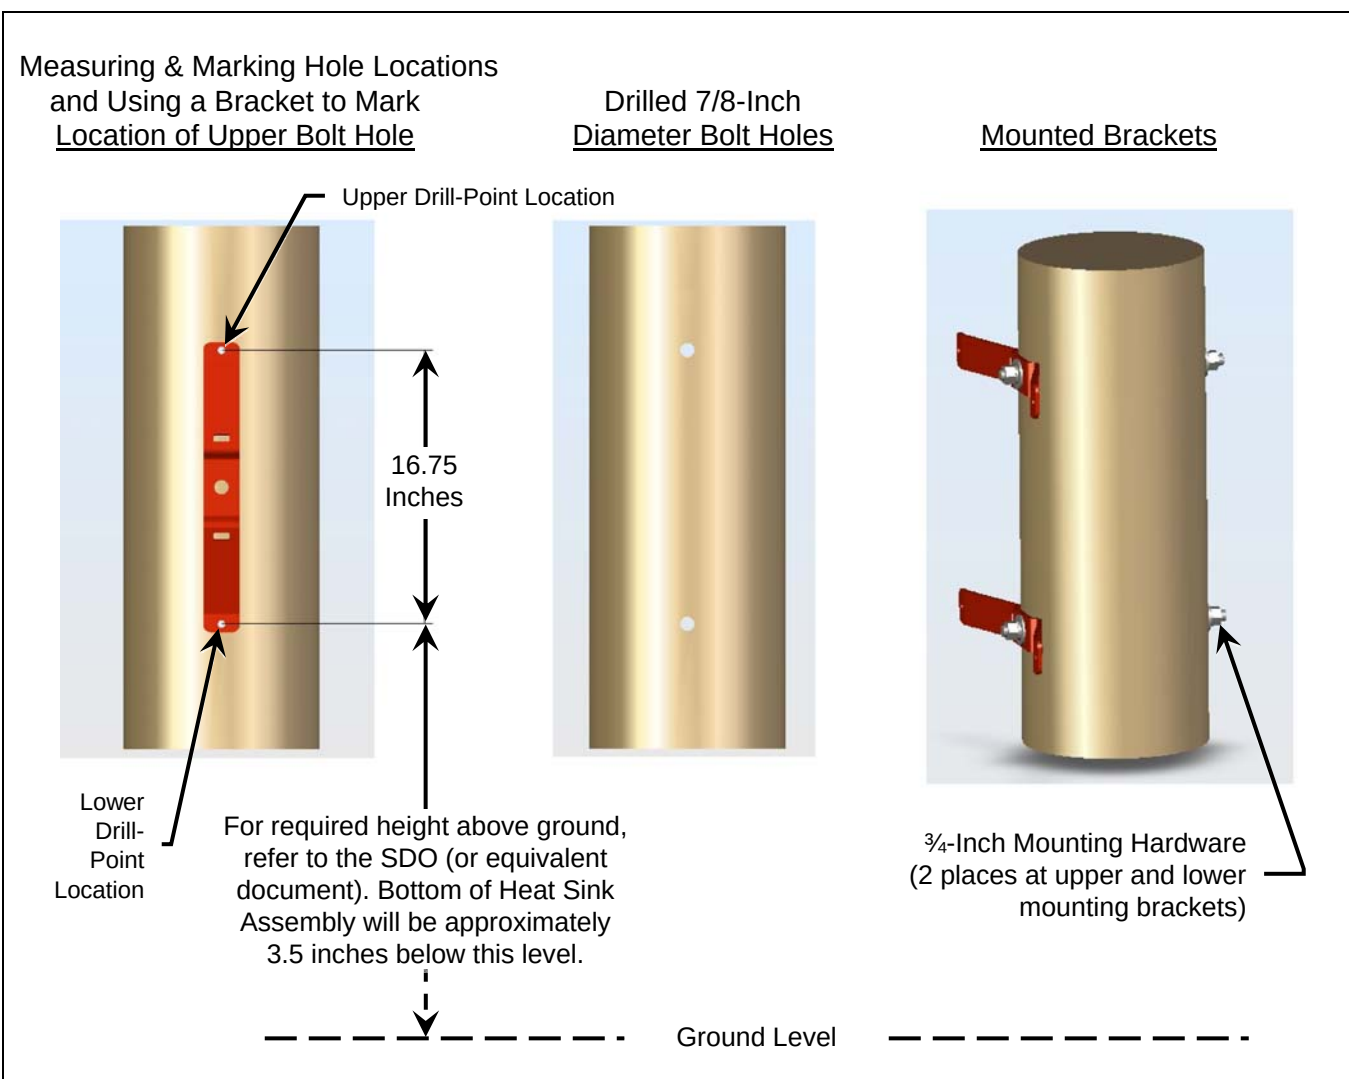

Figure 6-1: Attaching the Mounting Brackets to a 12-Inch Wooden Pole
1. Consult the SDO for the required height above ground specification, and any other mounting-related instructions/requirements. Most installations require the bottom of the base station cabinet at a distance of at least eight (8) feet from the surface of the ground.
2. On the base station cabinet-side of the pole, mark a drill-point location for the lower mounting bracket's bolt hole. The bottom of the cabinet will be at approximately this same level above ground. However, the bottom edge of the Heat Sink Assembly will be approximately 3.5 inches lower than this point after it is attached to the brackets. See Figure 6-1.
illustrated in Figure 6-1, the two end holes in one of the brackets may be used as a measuring tool, as these holes are exactly 16- $\frac{3}{4}$ inches apart.
5. Attach the two (2) mounting brackets to the pole using the $\frac{3}{4}$ -inch hardware included in Pole-Mount Installation Kit MACS-NMA6D (for wooden poles). See Figure 6-1 and refer to Table 6-1 for kit contents. **Do not torque this hardware until after the Heat Sink Assembly has been attached to the brackets (as described in a later section).**
3. Using a bubble or a laser-type level for an accurate vertical reference line, mark a location for the upper mounting bracket exactly $16\frac{3}{4}$ inches above the mark for the lower bracket. As illustrated in Figure 6-1, the two end holes in one of the brackets may be used as a measuring tool, as these holes are exactly $16\frac{3}{4}$ inches apart.
4. Using the two (2) stainless-steel straps included in Pole-Mount Installation Kit MACS-NMA6E (for metal poles), attach the two brackets to the pole. Refer to Table 6-2 for kit contents. Tighten the straps in accordance with the installations instructions included with the straps.